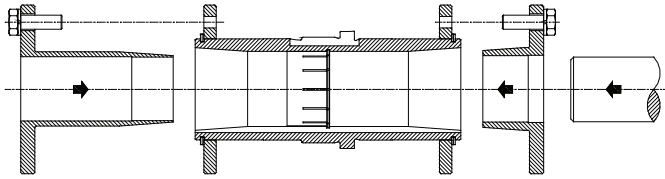

Figure 9 - Short Shaft Bushing and Output Hub Assembly
3. Install the tapered bushing wedge into the hollow bore of the reducer from the same side as the long bushing will be installed. When installing the tapered bushing wedge into the reducer hub, install the flange end first so that the thin taper is pointing outwards towards the long bushing as shown in Figure 9. The wedge is properly installed when it snaps into place in the reducer hub.